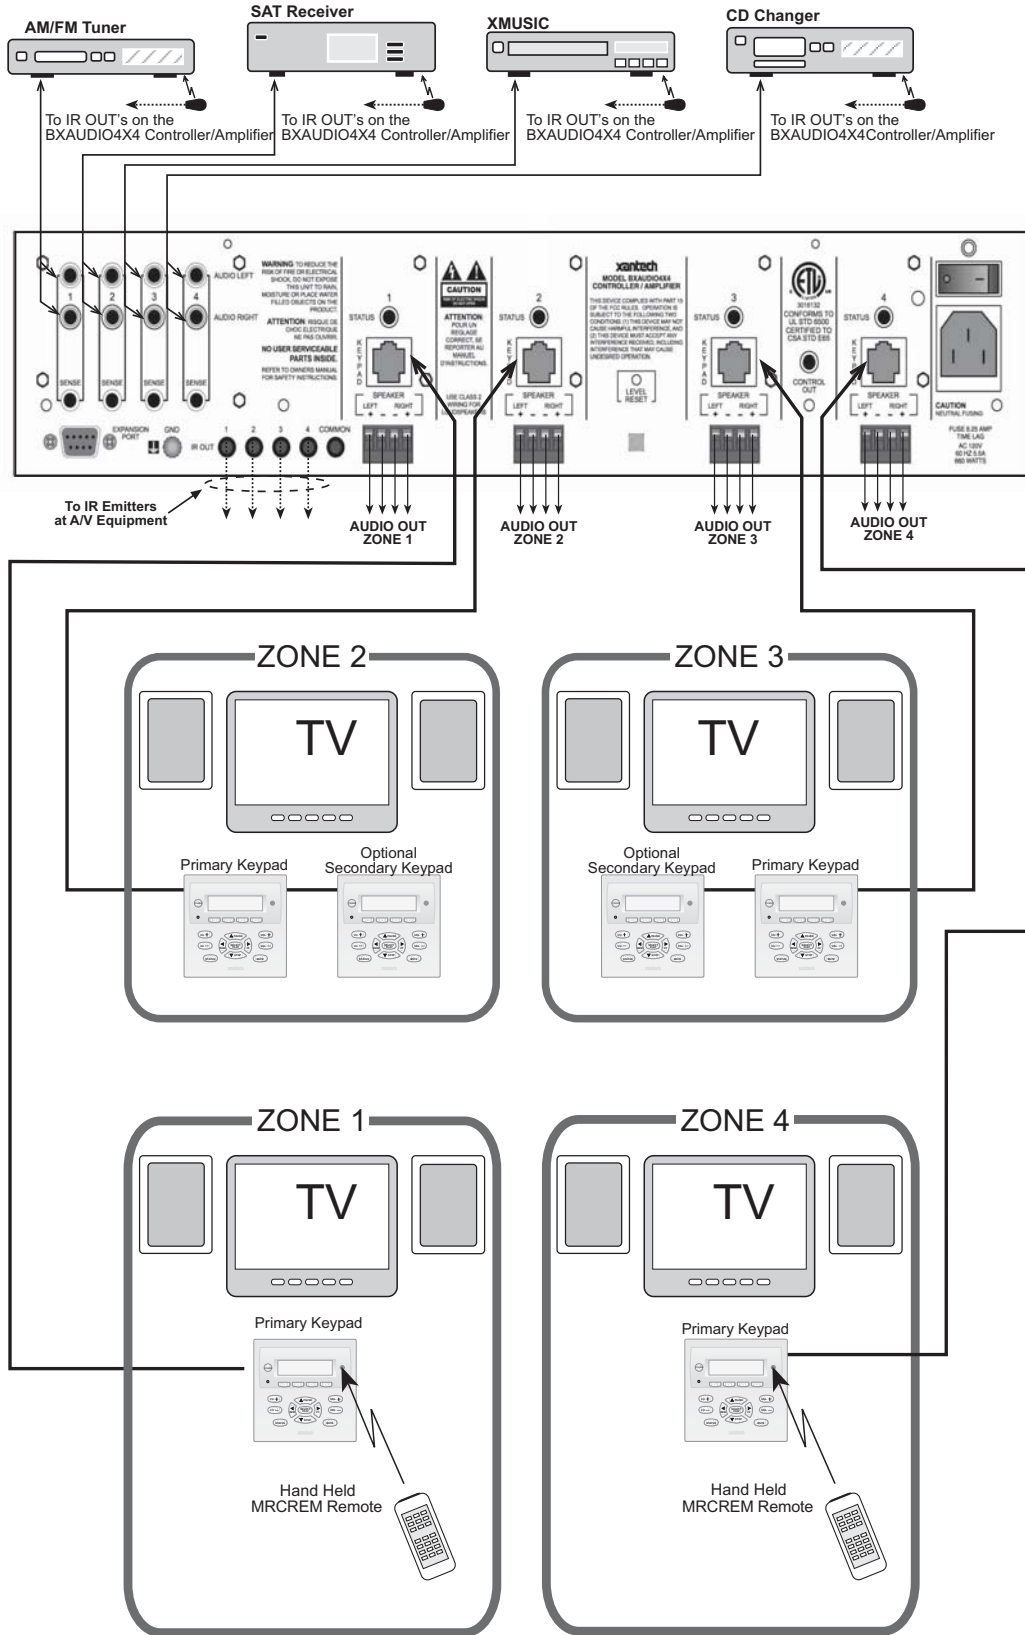

Figure 10 –Typical BXAUDIO4X4 System
When making connections to the BXAUDIO4X4 Controller be sure the power cord is unplugged. Proceed as follows, referring to **Figure 10** for Typical BXAUDIO4X4 System layout:
Using good quality RCA-type patch cables connect the LEFT and RIGHT OUTPUT jacks of the source component (DVD, CD, Satellite receiver, etc.) to the appropriate LEFT and RIGHT INPUT jacks on the BXAUDIO4X4. Do this for each source component. Refer to **Figure 10**.
1. Refer to **Figure 10** for proper termination at the zone-end of the CAT5 cable.
1. For a second keypad in the same zone, terminate the CAT5 cable in the same way as shown in **Figure 10**.
3. When adding an IR receiver in the zone, set the jumpers according to the above table and connect the cables as shown in **Figure 10**.
3. Assemble the components into a working BXAUDIO4X4 system such as that shown in **Figure 10**. Testing the system prior to installation can sometimes save time with unexpected problems.